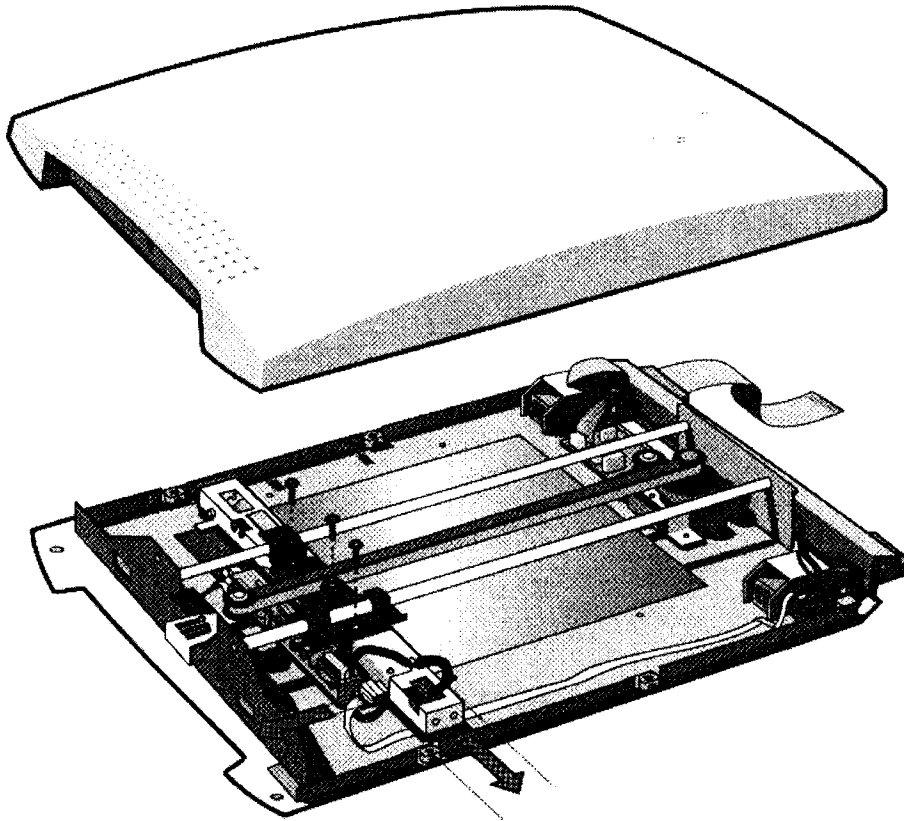

Fig. 5.6
12. Remove the two screws from the inverter board as indicated in Figure 5.6 (A).
13. Remove the side three screws on the lamp cover as indicated in Figure 5.6 (B).